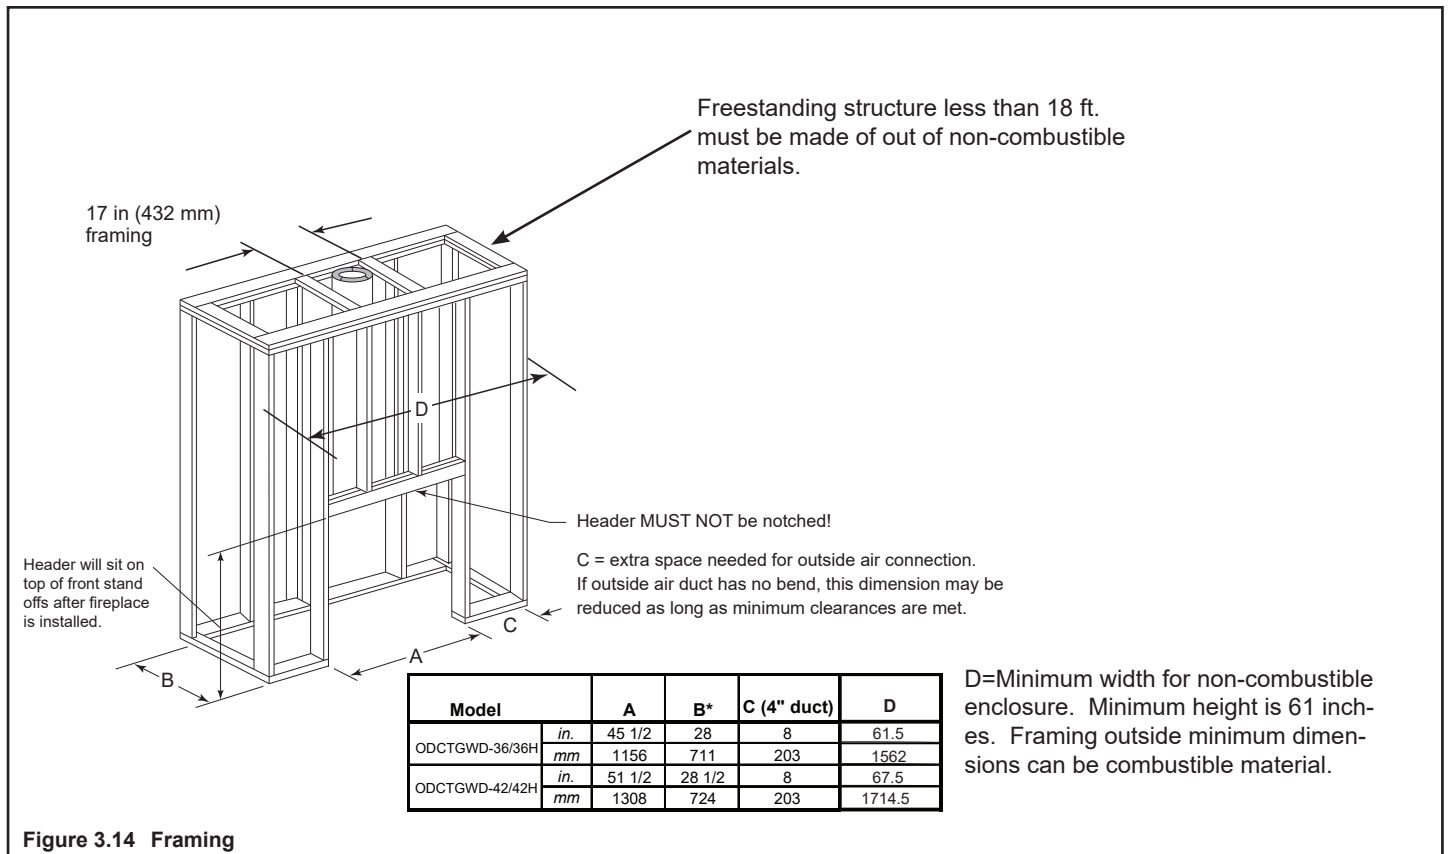

Figure 3.14 Framing
• **Freestanding Installations (see Figure 3.14 and 3.15)**
When installing this fireplace as a freestanding fireplace in your yard, it must be enclosed to prevent impact damage to the fireplace. Freestanding applications allow for a reduction in the minimum vent run. Non-combustible framing and an extended smoke shield are required. See Table 3.1 and Figure 3.14.